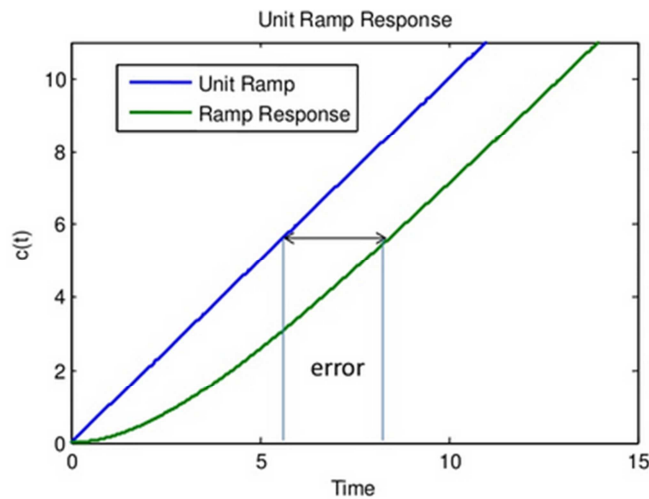

Figure 5: The ramp response for case 2, example 4
- 2) The ramp response of system, if $K = 1$ and $T = 3$ is shown in figure 5